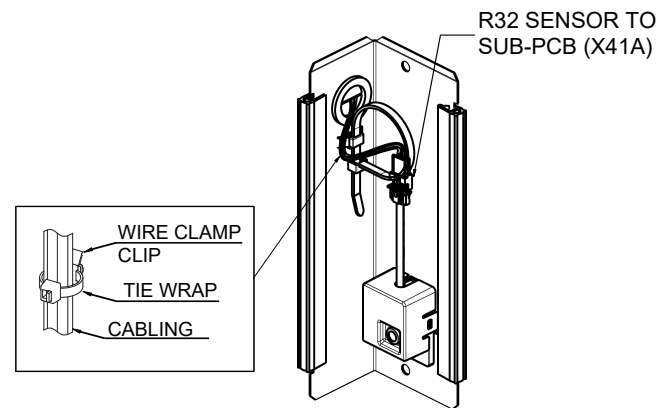

**FIGURE M.3**
**5.7** Connect the R-32 wire harness to the R-32 Sensor by pushing the connectors together until they “click.” Verify the connector is fully seated by gently pulling back on the harness, taking care not to damage the connector locking feature. (Refer to Fig. M.3)
**5.8** Fix the harness to the Sensor Panel using the wire clip and a tie wrap (item 18). (Refer to Fig. M.3)